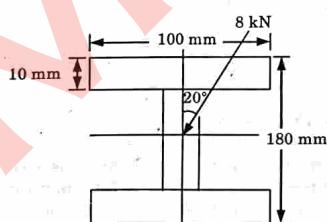

Fig. 4.
- c. A simply supported I-section beam of span 1.5 m carries a concentrated load of 8 kN at an angle of 20° from vertical as shown in Fig. 4. Load passes through the centroid of the section. Determine the maximum bending stress in the beam.